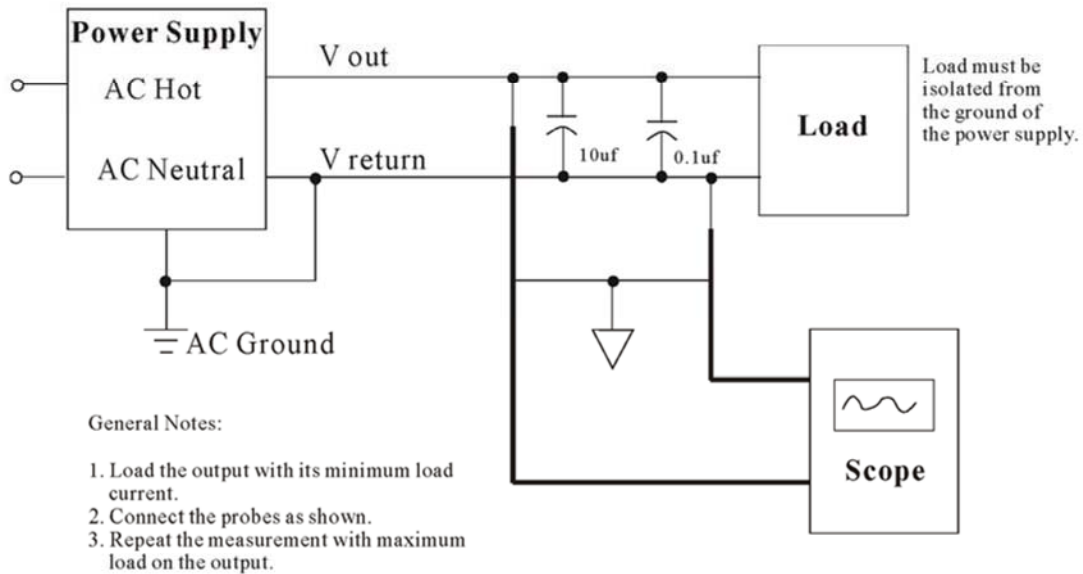

Figure 1. Differential Noise Test Setup
- F. Ripple and noise measurements shall be made under all specified load conditions through a single pole low pass filter with 20MHz cutoff frequency. A 0.1uF ceramic disk capacitors in parallel with a 10uF tantalum are placed at the point of measurement. See Figure 1.